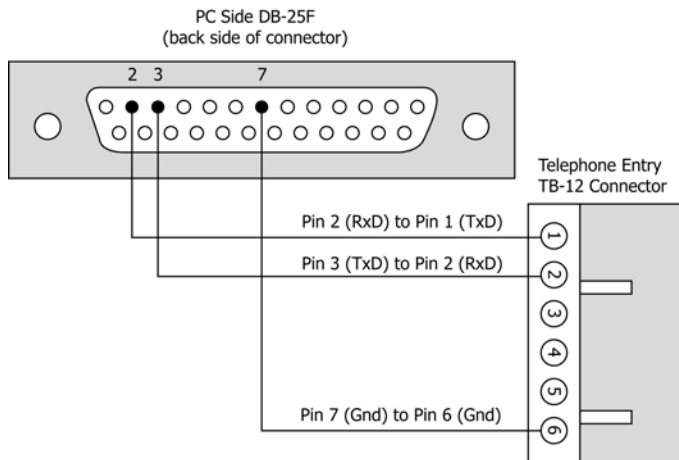

Figure 17: PC/DB-25F to Telephone Entry/TB-12 RS-232 Direct Serial Connections
- If the host computer has a male DB-25 connector on the serial port, you must use a Keri Systems KDP-251 cable or create a cable according to the drawing in Figure 17 on page 16.